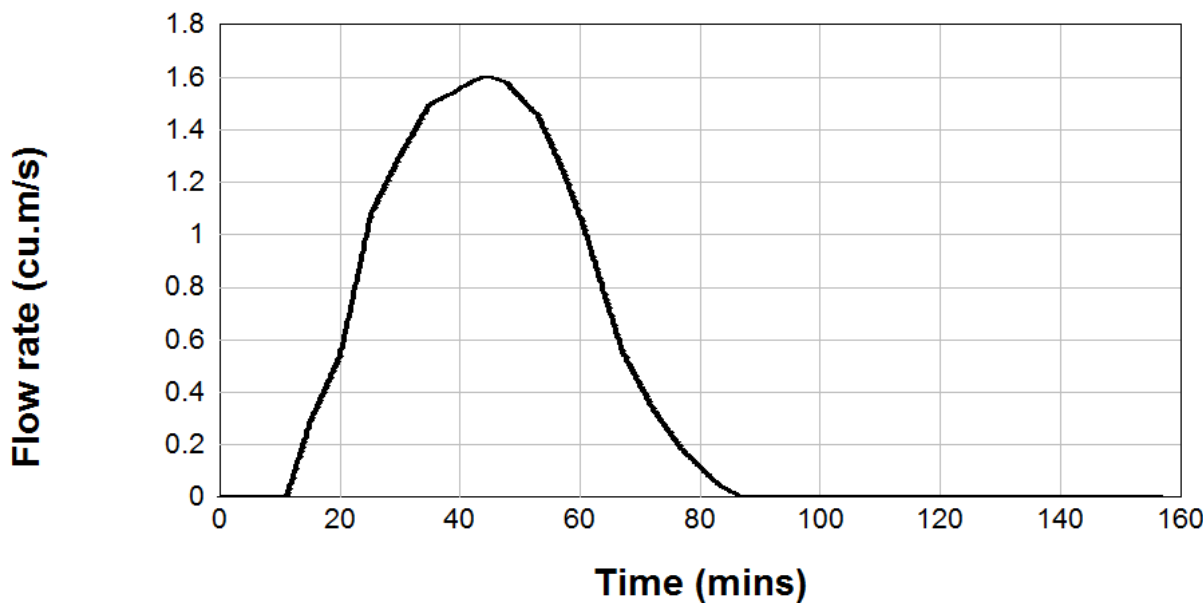

Figure 5 – Western Site Boundary Node N2 – 100 Year ARI Storm – 60 minute duration
- ❖ Figure 5 Concept Trench Drainage Basement 2 Plan